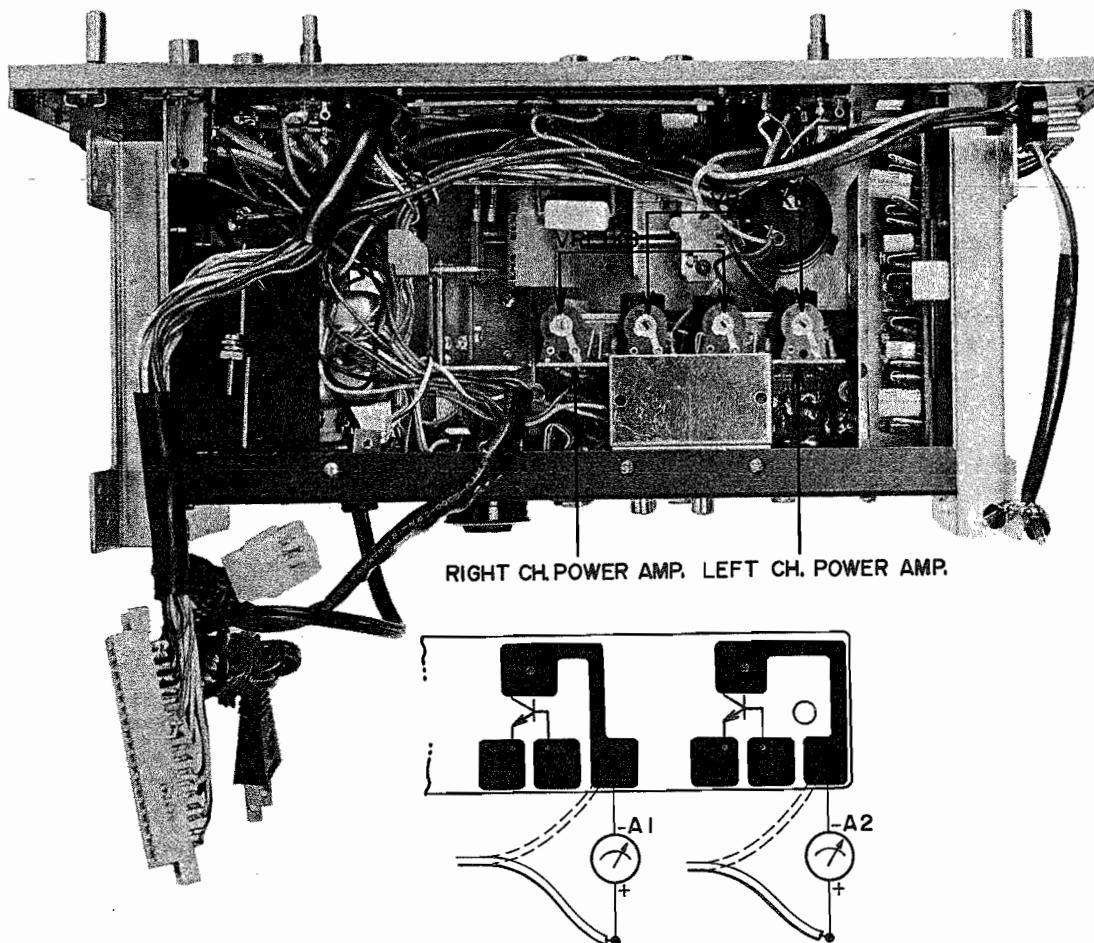

Fig. 23
- 3) Adjust Semi-fixed Resistors VR1 and VR2 (1 kB) in Fig. 23 so that the 2 ammeters (A1, A2) indicate 18 to 20 mA.